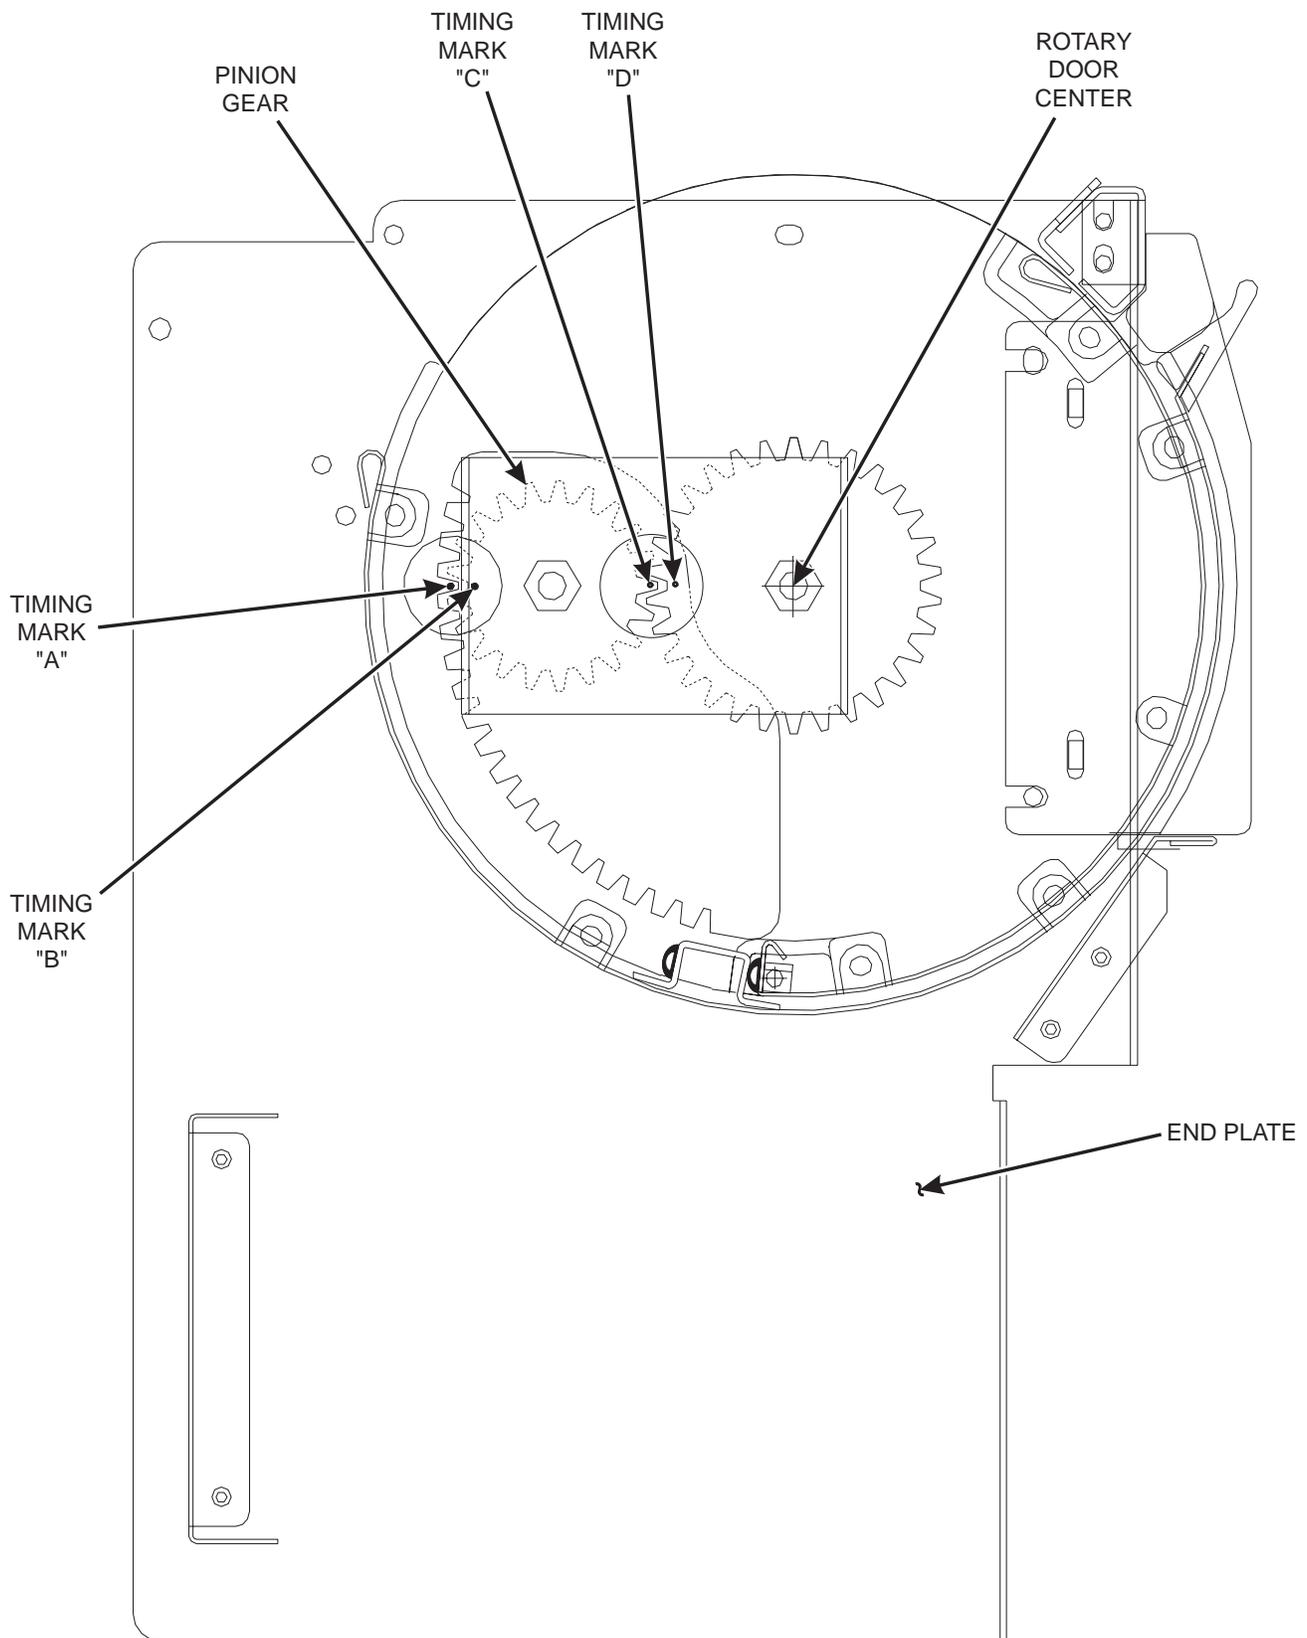

Figure 1
2. Refer to figure 1 to verify that the timing is correct. All four timing marks (A, B, C, and D) must be in a straight line. Be sure to check both ends of the delivery door.
- a. Remove eight screws from the left end (see figure 1 for screw locations).
23. Starting on the right end of the combined delivery and pilferage door assemblies, align the timing marks "A" and "D". (See figure 1.)
28. Flip the assembly over onto its right end. Place the remaining pinion gear and pinion gear bushing so that timing marks "A", "B", "C", and "D" are in a straight line. See figure 1.
32. Verify that the timing is still correct. See figure 1.
Refer to figure 1.